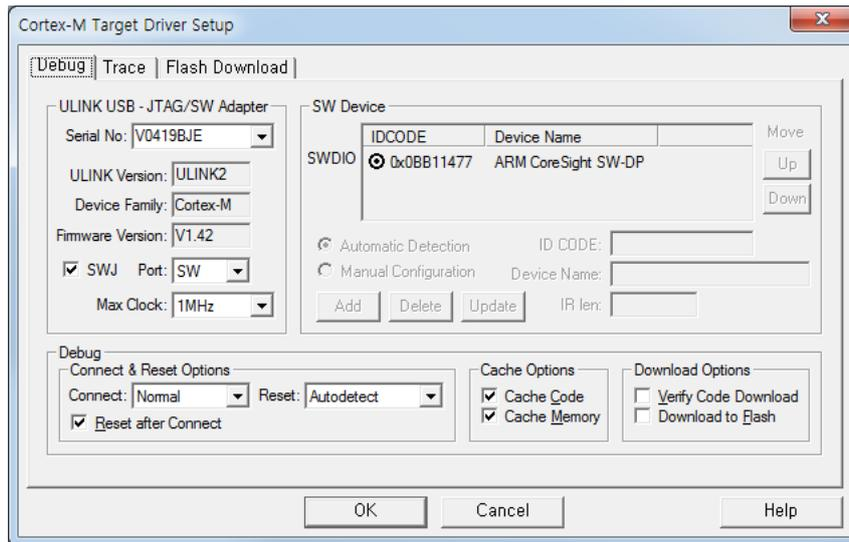

Figure 10
- At Debug tab, set driver setup as below Figure 10.